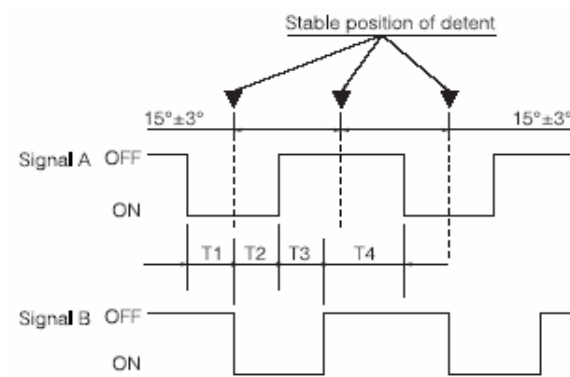

Figure 2. Optics Quadrature Signal Generation
3. Connect the "A" terminal of the rotary switch to "ZA" and the "B" terminal to "ZB". ZA MUST be connected to "Signal A" in Figure 2 where the z-wheel detents are mechanically stable.
As shown in Figure 2 below, traveling along the quadrature signal to the right produces a unique set of state transitions, and traveling to the left produces another set of unique state transitions.